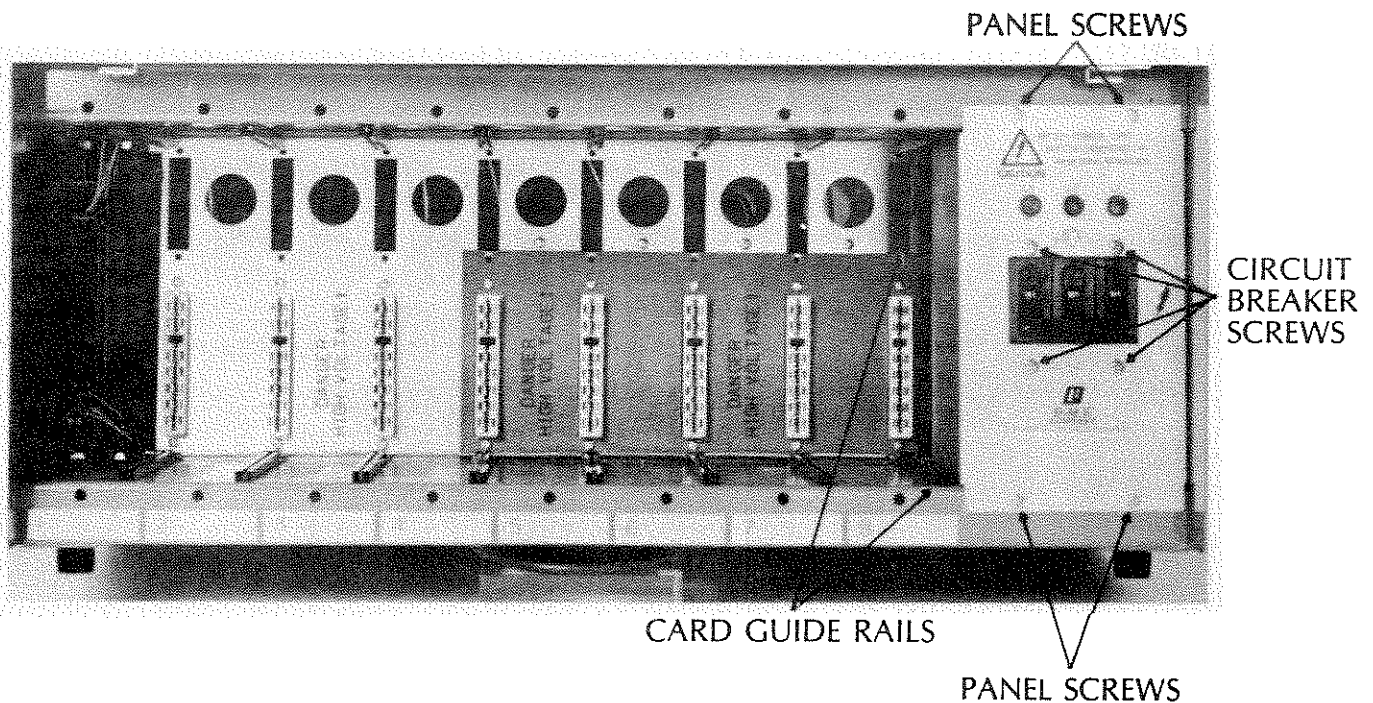

Fig. 1
4. Remove four screws mounting circuit breaker to circuit breaker panel. Save hardware for reuse later. Remove four screws holding circuit breaker panel to main frame. Save hardware for reuse later. Refer to Figure 1.
5. If neon phase lights are connected to buss strip, unplug wires from buss strip so that panel can be removed. Remove panel and set aside or discard. If phase lights are connected to bottom of circuit breaker, it will be necessary to twist breaker panel around inside the main frame in order to remove nuts and disconnect light wires. This will necessitate popping out the front edge of the upper and lower card guide rails directly adjacent to circuit breaker panel as indicated in Figure 1. When panel is free, set aside or discard.